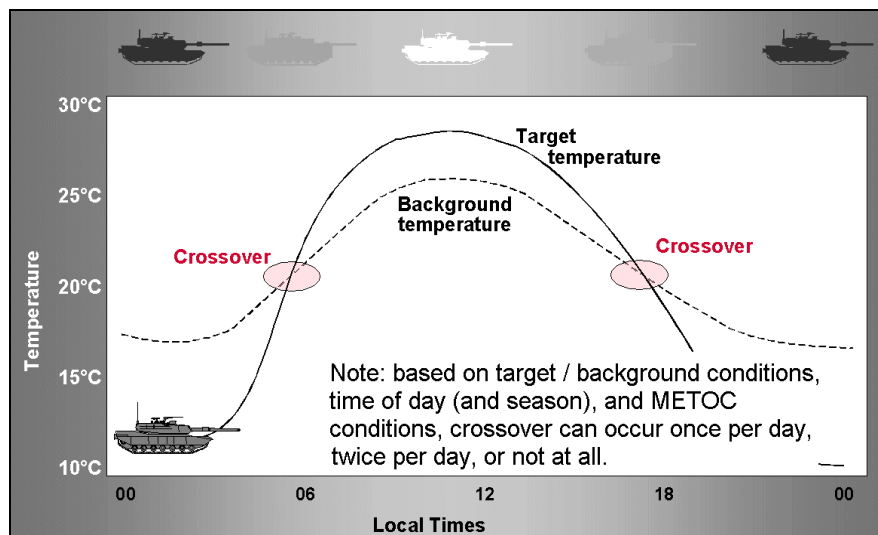

Figure 13 – Thermal crossover idealized
1. Most man-made and natural objects in the battle scene undergo continual temperature changes that follow rather predictable trends. But because of the variations in emissivity values and variations in the background, individual target objects and their backgrounds heat and cool at different rates during the diurnal cycle. Because of this, there are periods within the diurnal cycle when the temperature of one can equal (and sometimes pass) the temperature of the other. These periods are referred to as **diurnal or thermal crossover** (figure 13).
b. As the note in figure 13 indicates, crossover may occur once, twice, or not at all. It may occur twice for three days (once after sunrise, then again before sunset), then not occur for the next two because of METOC conditions or because the targets that were on the move are no longer exercising and, in fact, are now camouflaged.